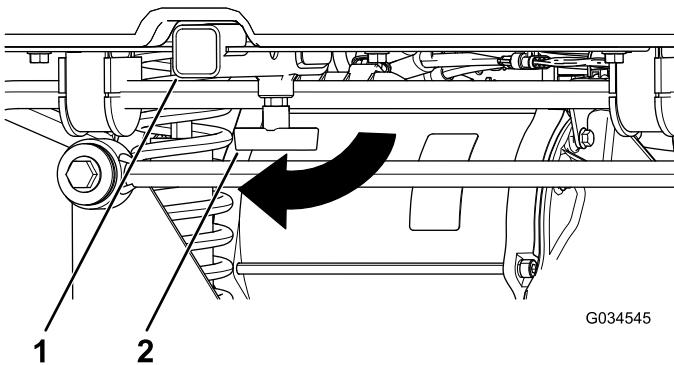

Figure 15
1. Loosen the "T" handle by rotating it clockwise (Figure 15).
2. Insert your accessory into the receiver until the holes align (Figure 15).